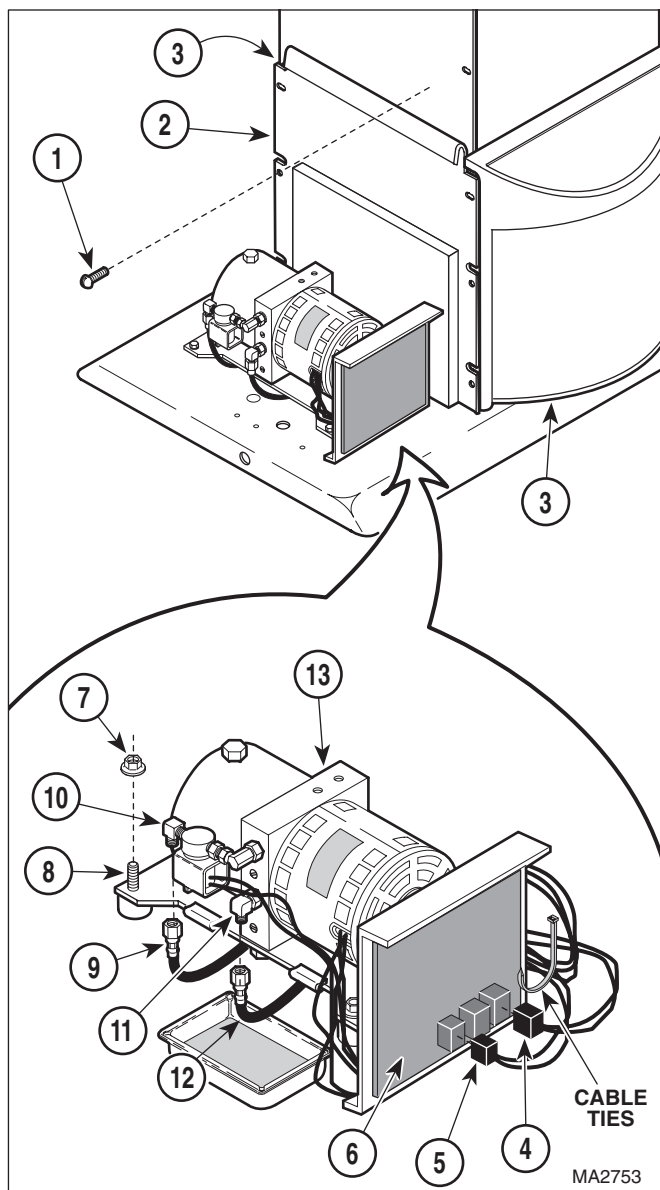
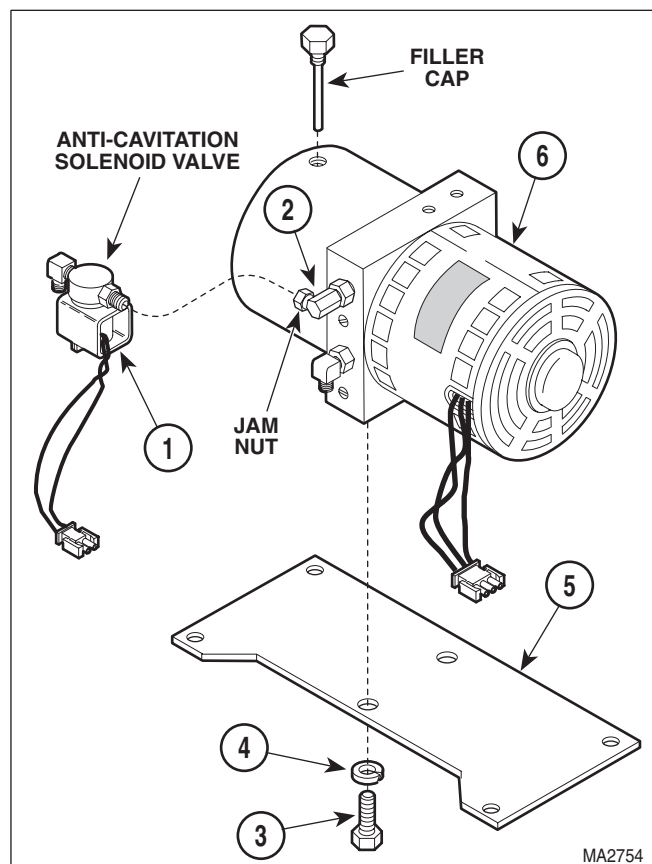

Figure 4-8. Motor Pump Removal / Installation
Figure 4-9. Motor Base Removal / Installation
- (1) Unplug table power cord from outlet.
- (2) Remove motor cover assembly (Refer to para 4.2).
- (3) Remove four screws (1, Figure 4-8) and back out shroud (2) from left and right hand outer shrouds (3).
- (4) Disconnect motor pump wire harness (4) and anti-cavitation wire harness (5) from PC control board (6).
- (5) Cut cable ties which secure motor pump wire harness (4) and anti-cavitation wire harness (5) to other wire harnesses.
- (6) Remove four nuts (7) from four motor mounts (8).
- (7) Disconnect hose assembly (9) from male elbow (10).
- (8) Place a drain pan under elbow (11).
- (9) Disconnect hose assembly (12) from elbow (11). Allow oil to drain into drain pan.
- (10) Remove motor pump assembly (13) from four motor mounts (8).
- (11) Remove filler cap and drain any remaining oil into drain pan (See Figure 4-9).
- (12) Using a wrench to hold male connector / anti-cavitation solenoid valve (1, Figure 4-9) stationary, loosen jam nut of elbow (2). Disconnect male connector / anti-cavitation solenoid valve (1) from elbow (2).
- (1) Install motor base (5, Figure 4-9) on motor pump (6) and secure with two lockwashers (4) and screws (3).
- (2) Coat threads of male connector (1) with pipe thread tape or sealant.
- (3) Connect male connector / anti-cavitation solenoid valve (1) to elbow (2) and secure by tightening jam nut.
- (4) Install motor pump assembly (13, Figure 4-8) on four motor mounts (8) and secure with four nuts (7).
- (5) Connect hose assembly (12) to elbow (11).
- (6) Connect hose assembly (9) to male elbow (10).
- (7) Connect anti-cavitation wire harness (5) and motor pump wire harness (4) to PC control board (6).
- (8) Secure anti-cavitation wire harness (5) and motor pump wire harness (4) to other wires / wire harnesses with cable ties.
- (9) Install back outer shroud (2) on left and right hand outer shrouds (3) and secure with four screws (1).
- (10) Add oil to motor pump (Refer to para 4.3).
- (11) Install motor cover assembly (Refer to para 4.2).
- (12) Plug table power cord into outlet.
- (13) Dispose of used oil in accordance with local regulations.